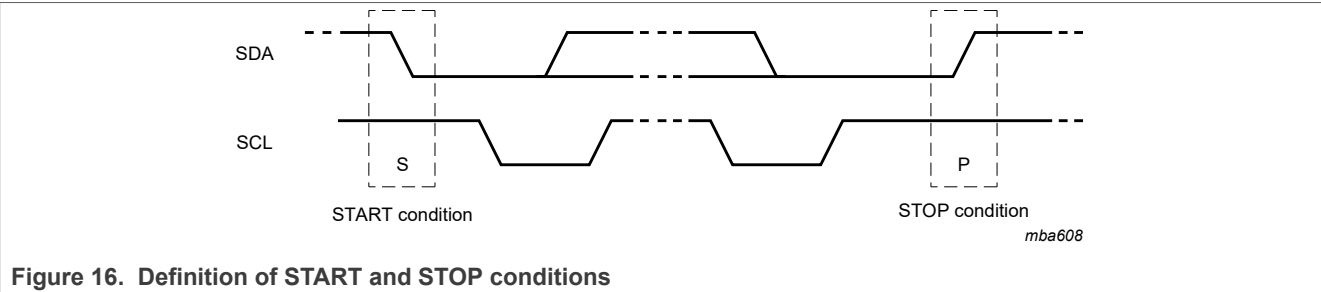

Figure 16. Definition of START and STOP conditions
Both data and clock lines remain HIGH when the bus is not busy. A HIGH-to-LOW transition of the data line while the clock is HIGH is defined as the START condition (S). A LOW-to-HIGH transition of the data line while the clock is HIGH is defined as the STOP condition (P) (see Figure 16).